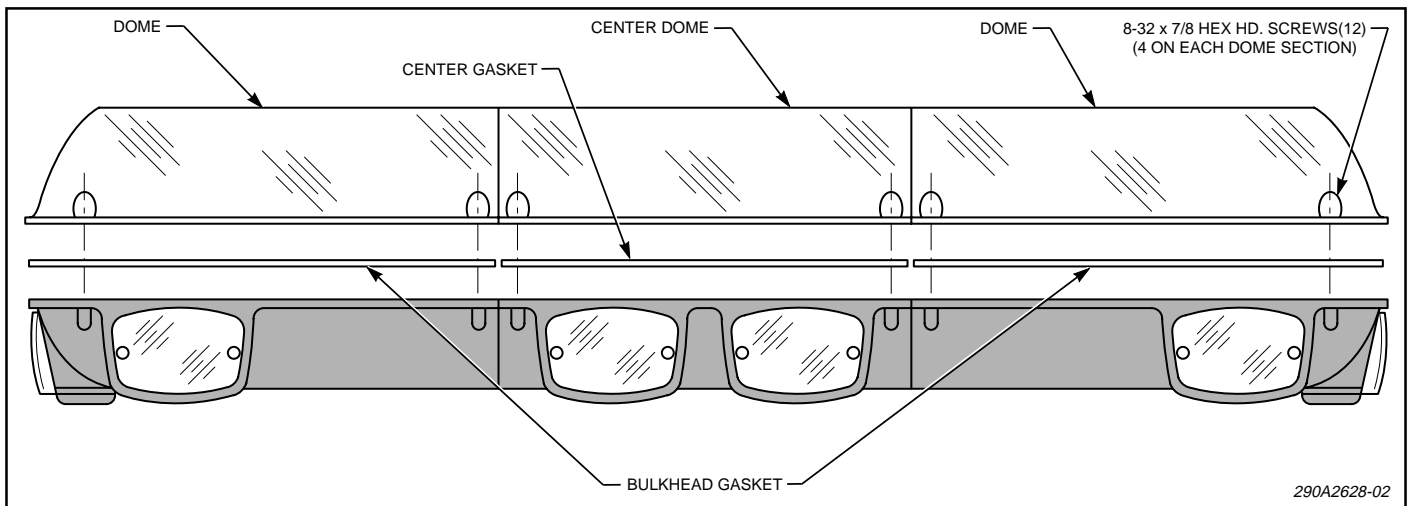

Figure 3.
1. Dome Removal (see figure 3).